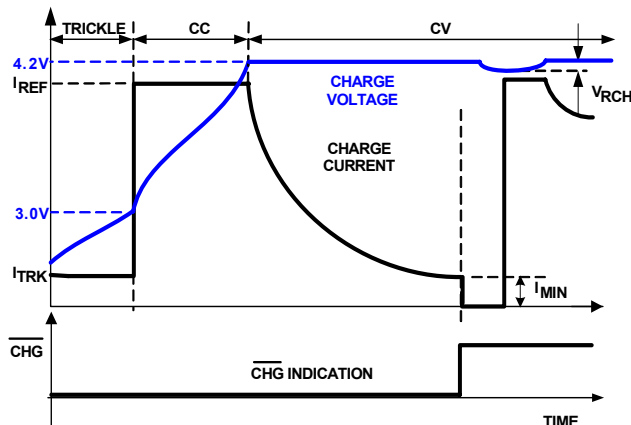

FIGURE 28. TYPICAL CHARGING CYCLE FOR CONT = L
The charger function is similar to other Li-ion battery chargers, i.e., it charges the battery at a constant current (CC) or a constant voltage (CV) depending on the battery terminal voltage. The constant current  $I_{REF}$  is set by the external resistor  $R_{IREF}$ . Depending on the combination of the AC/USB and the MODE pin status, the actual charge current may be reduced by the input current limit. When the battery voltage reaches the final voltage of 4.2V, the charger enters the CV mode and regulates the battery voltage at 4.2V to fully charge the battery without the risk of overcharging. Upon reaching an end-of-charge (EOC) current, the  $\overline{CHG}$  will turn to high impedance to indicate a charge complete state and if CONT is low, Q2 will be turned off to terminate charging. Figure 28 shows the typical charge profile with the EOC/recharge events when CONT is low.